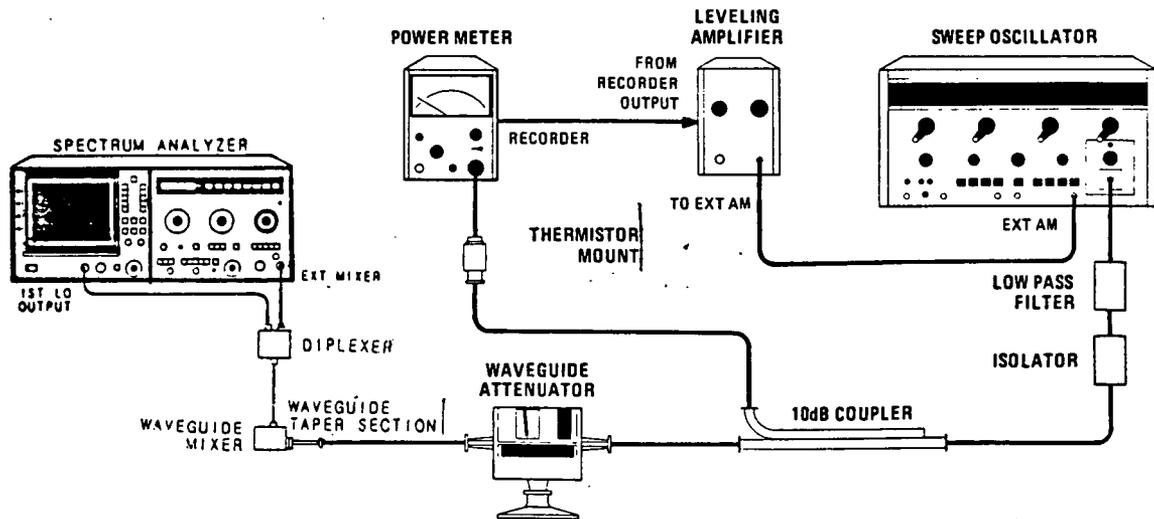

Figure 4-33. Average Noise Level Test Setup (Above 18 GHz)
6. Connect equipment as shown in Figure 4-33. Set sweep oscillator SWEEP SELECTOR to CW and set FUNCTION to START/STOP. ALC and all AMPLITUDE MOD buttons should be off (out) except EXT AM. Select 8-12.4 GHz mode on the control for a center frequency of 25 GHz.
7. With the HP 8696A installed in the HP 8690B, turn RF to STANDBY and POWER LEVEL full on (CW). Set waveguide attenuator to MAX. Set leveling amplifier GAIN to mid range.